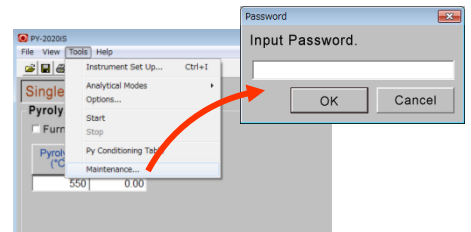

Fig. 1.1
- 1.1 The currently set calibration temperature of the pyrolyzer furnace is checked. Select **“Tools” – “Maintenance”** from the menu bar. A password prompt is displayed (Fig. 1.1). Enter **“2020”** as password and hit **[OK]** button.